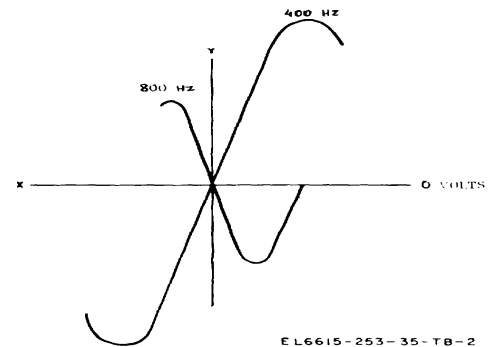

Figure 2. Sine waves display.
(7) The correct phasing of the 800-Hz signal shall occur when the 800-Hz sine wave crosses through zero magnitude at the same instant that the reference 400-Hz phase A sine wave does. The 800-Hz and 400-Hz cross-over points shall be within ± 5 degrees on the 400-Hz reference scale. Refer to figure 2 for typical sine waves display.
(8) Positive polarity of the 800 Hz signal shall be such that the low-side to high-side voltage (TB1 terminal 109 to TBI terminal 110) increases positively from zero at the same time that the neutral-to-phase A 400-Hz reference voltage increases positively from zero.
(9) Connect the voltmeter A4 to the various terminals listed for each test in table 5 and check the signal voltages are within limits specified.